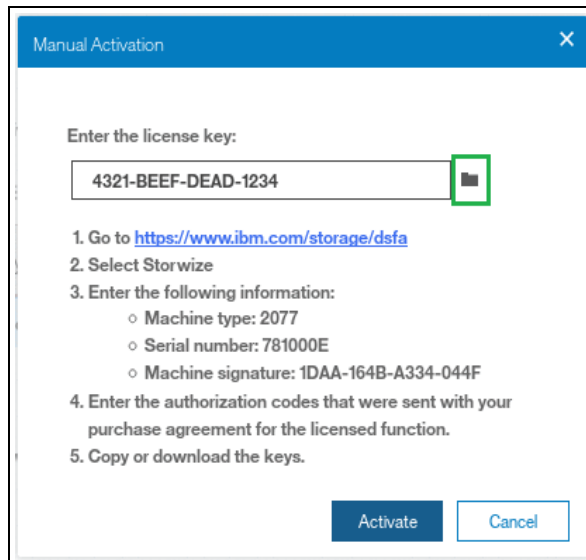

Figure 13-18 Entering an encryption license key
3. You can enter the license key either by typing it, by using cut or copy and paste, or by clicking the folder icon and uploading to the storage system the license key file downloaded from DSFA. In Figure 13-18, the sample key is already entered. You can now click **Activate**.